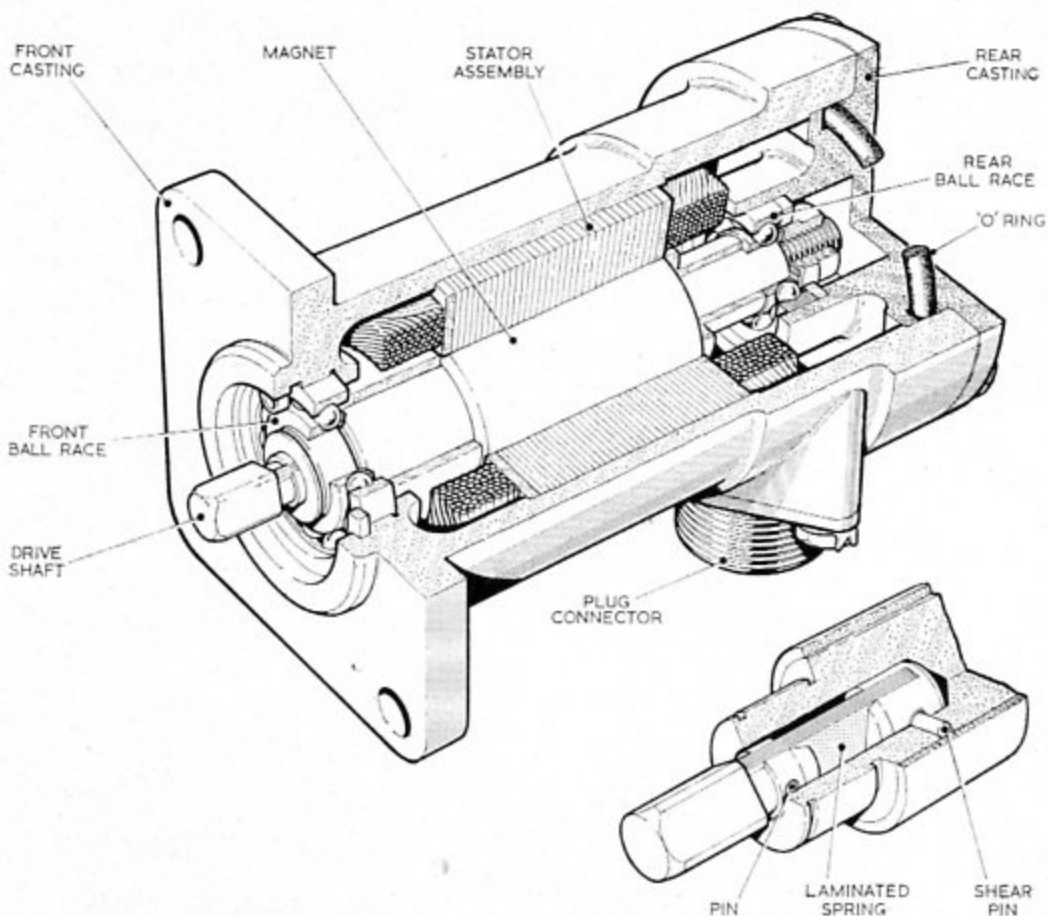

Fig. 2. Sectional view
2. The generator (fig. 2) consists of a three-phase stator and a two-pole permanent magnet rotor enclosed in a housing with a square mounting flange at one end and a three-pole electrical plug connector at the side of the housing. The housing comprises front and rear castings, which are bolted together at the rear.